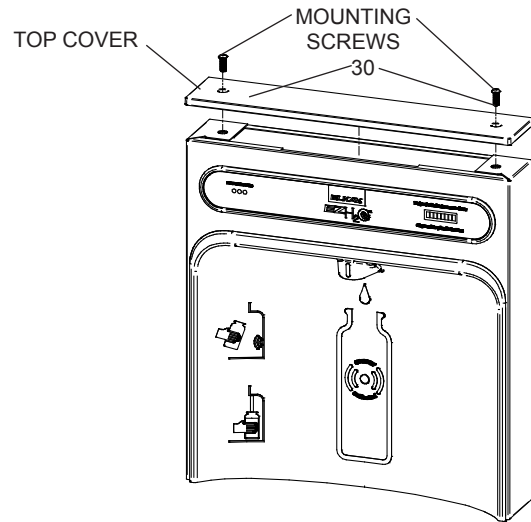

Fig. 9
- 1) Remove two (2) mounting screws with 5/32" Allen wrench holding top cover to Bottle Filler (See Fig. 9). Remove top cover. Note do not discard mounting screws, they will be needed to reinstall top cover.
- 11) Once Bottle Filler is installed on wall plate tabs, water line, wire(s) and power cord are installed properly, push top of Bottle Filler toward wall and line up top cover two (2) holes.
- 12) Reinstall Top Cover on Bottle Filler (See Fig. 9) with two mounting screws from step 1 above. Caution, do not over tighten screws.